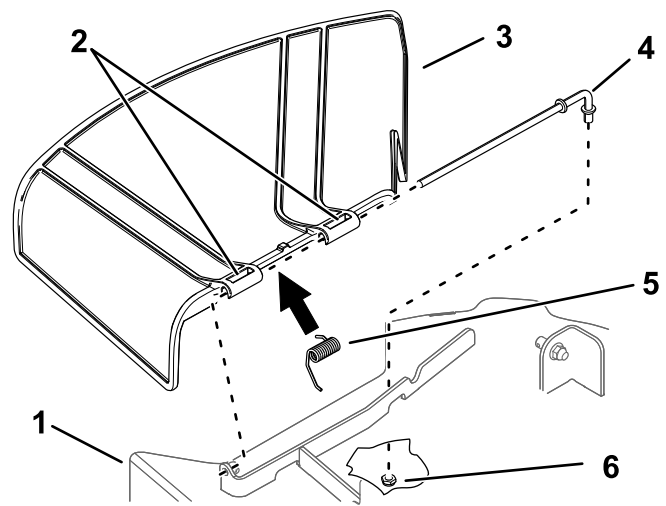

Figure 63
1. Remove the nut (3/8 inch) from the rod under the mower (Figure 63).
2. Slide the rod out of the short stand-off, spring, and grass deflector (Figure 63).
4. Install the new grass deflector (Figure 63).
7. Slide the rod through the second grass-deflector bracket (Figure 63).
9. Secure the rear end of the rod into the mower with a nut (3/8 inch) as shown in Figure 63.